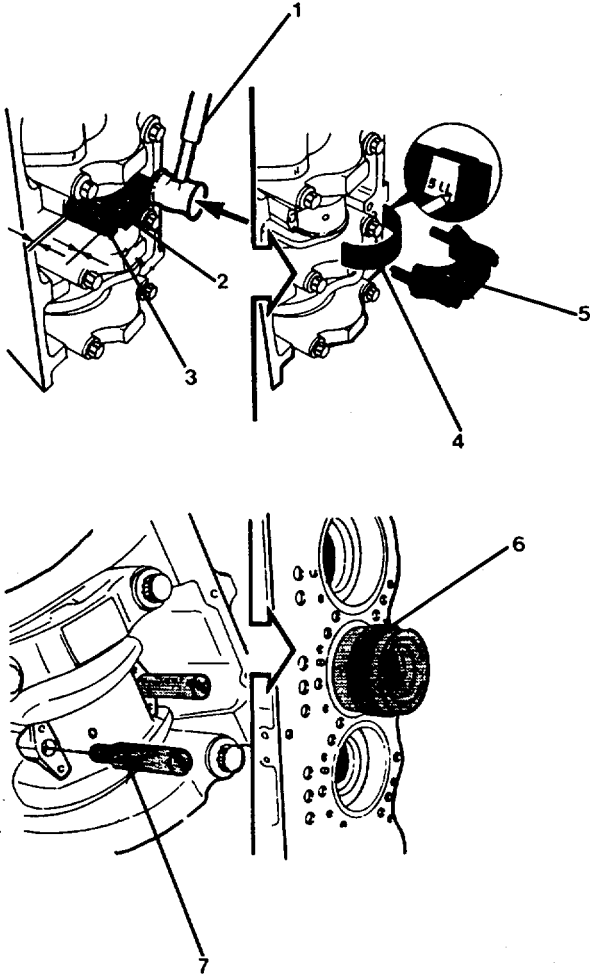
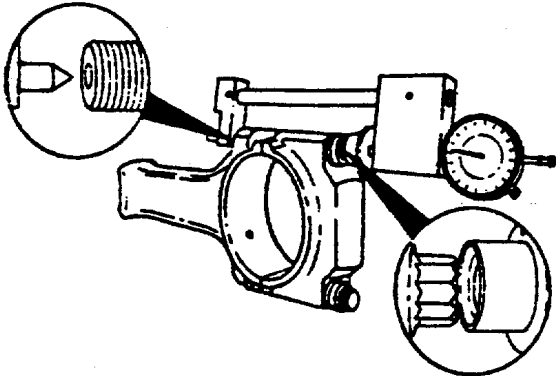

FIGURE 3-22. Connecting Rod and Piston Assembly Removal.
FIGURE 3-27. Rod Bolt Checking Fixture.
The connecting rod journals in FIG. 3-22 are shown positioned at BDC. If the connecting rod is adjacent to a crankshaft counterweight, the rod journal must be at TDC to remove the rod.
- (2) Loosen machine bolts (3, FIG. 3-22) until there is 1/4 inch (6 mm) clearance between the connecting rod (2) and the bolt heads.
- (4) Install bearing (4, FIG. 3-22) in connecting rod cap (5). Align bearing oil hole with cap oil hole. Lubricate bearing with clean engine lube oil.
- (5) Lubricate the connecting rod machine bolt threads and beneath the bolt head with clean engine lube oil.
- (6) Lubricate the entire cylinder liner with clean engine lube oil.
- (7) Immerse the piston in lube oil until the rings are covered. Allow excess oil to drip from pistons.
(11) Install connecting rod cap (5, FIG. 3-22) and machine bolts (3). Tighten the machine bolts (3) alternately and evenly to pull the cap over the pin dowels.
- (1) Tighten connecting rod bolts (3, FIG. 3-22) using the procedure in Table 3-5. Apply torque to both bolts.
- (2) Loosen both bolts (3).
- (3) Position rod bolt checking fixture on rod bolt (FIG. 3-27). Ensure the fixture anvil is centered in hole of the rod bolt and the figure contacts the head of the bolt as shown in FIG. 3-27.
- (4) Adjust the fixture indicator to the 0.050 inch mark. Ensure that there is a minimum of 0.030 travel remaining.
- (5) Tighten indicator lock to maintain reading. Record reading as "First Bolt Zero."